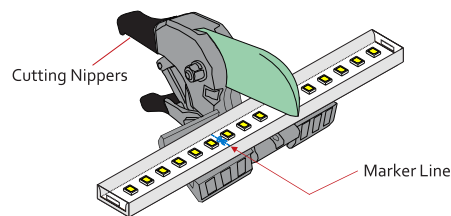

Fig. 3.4
- Cutting must be done at the marker line, and pls do not cut at other place (Fig. 3.4), and doing so will result in damaging the internal circuit board.